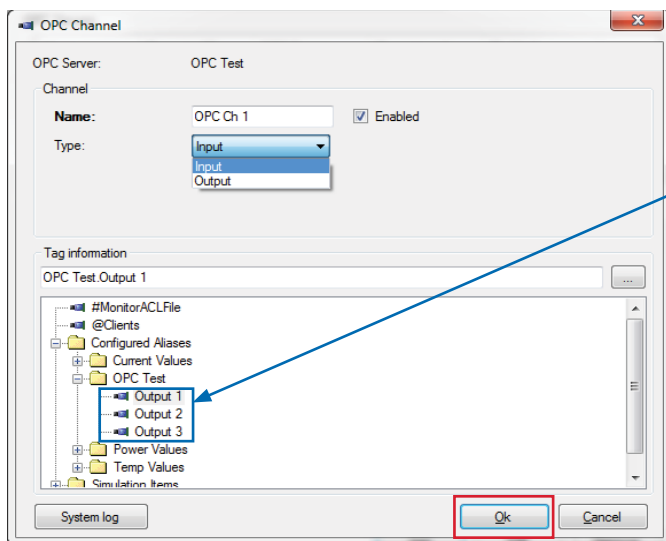

Fig. 6. Enter the channel name and select the type.
- In the **OPC Channel** window, enter a suitable **Name** for the channel (→ **fig. 6**).